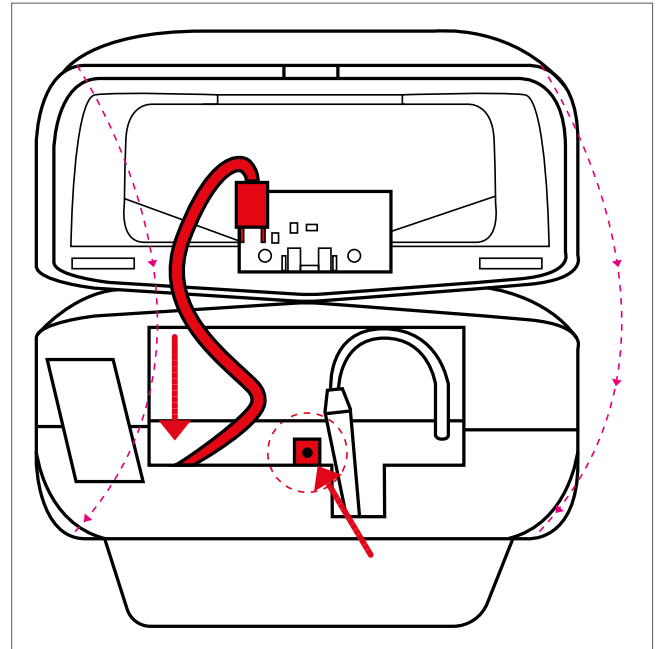

Figure 4.49 Light assembly
2. Check to ensure the light cable is routed away from the nut to avoid damage (Fig. 4.49).